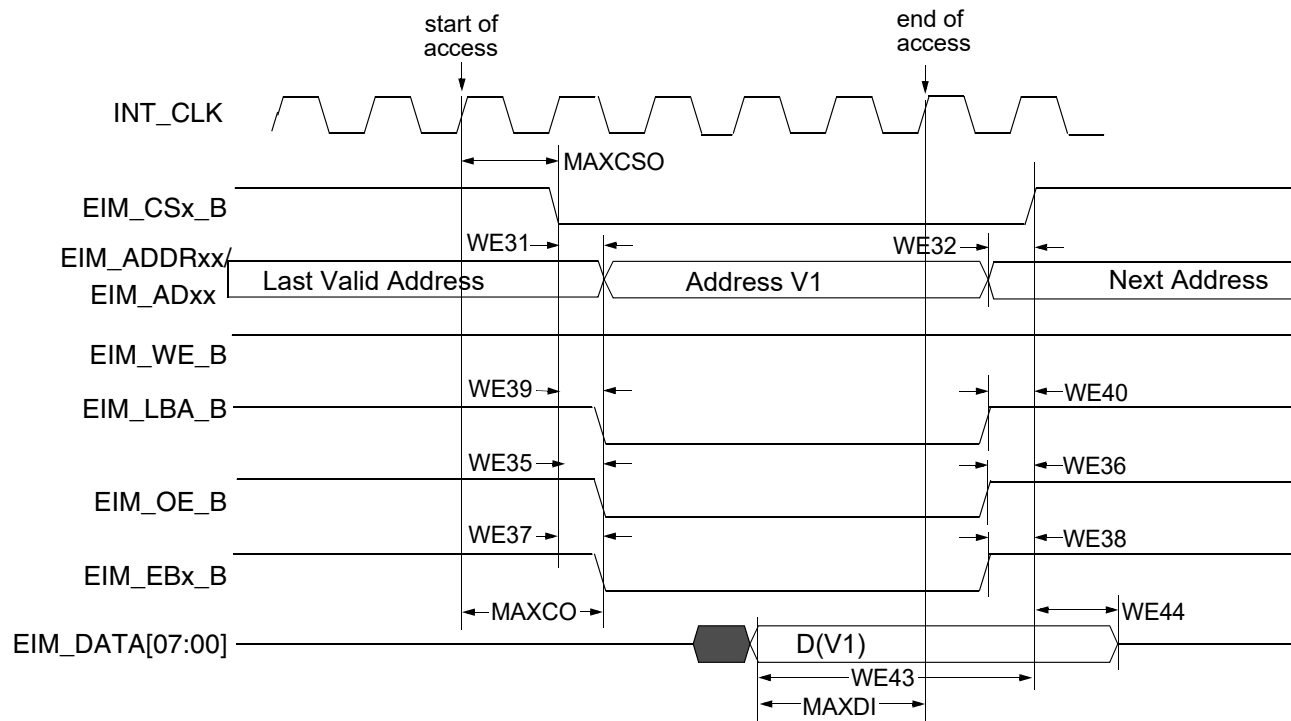
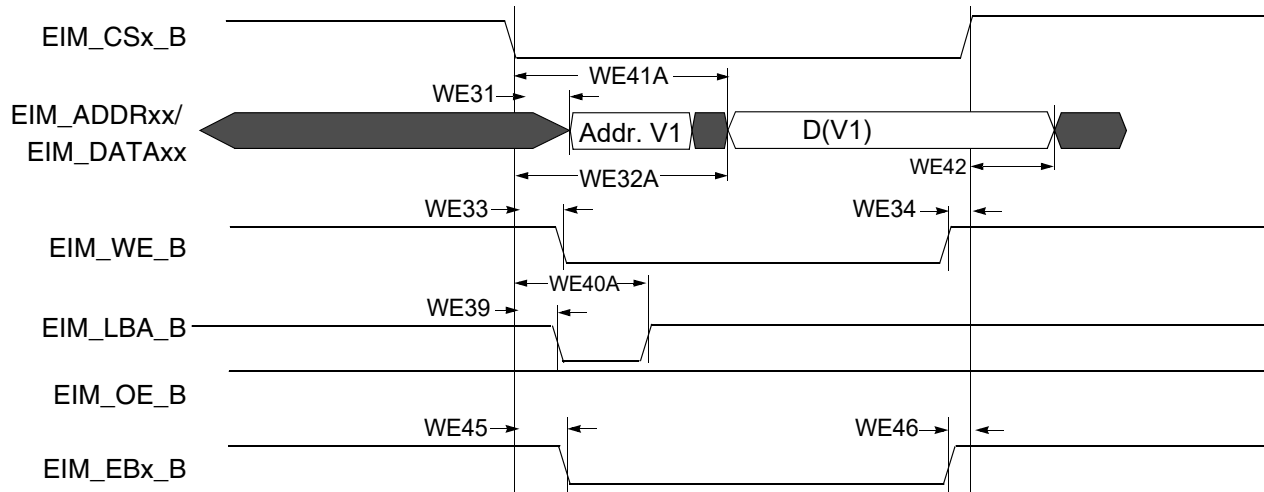
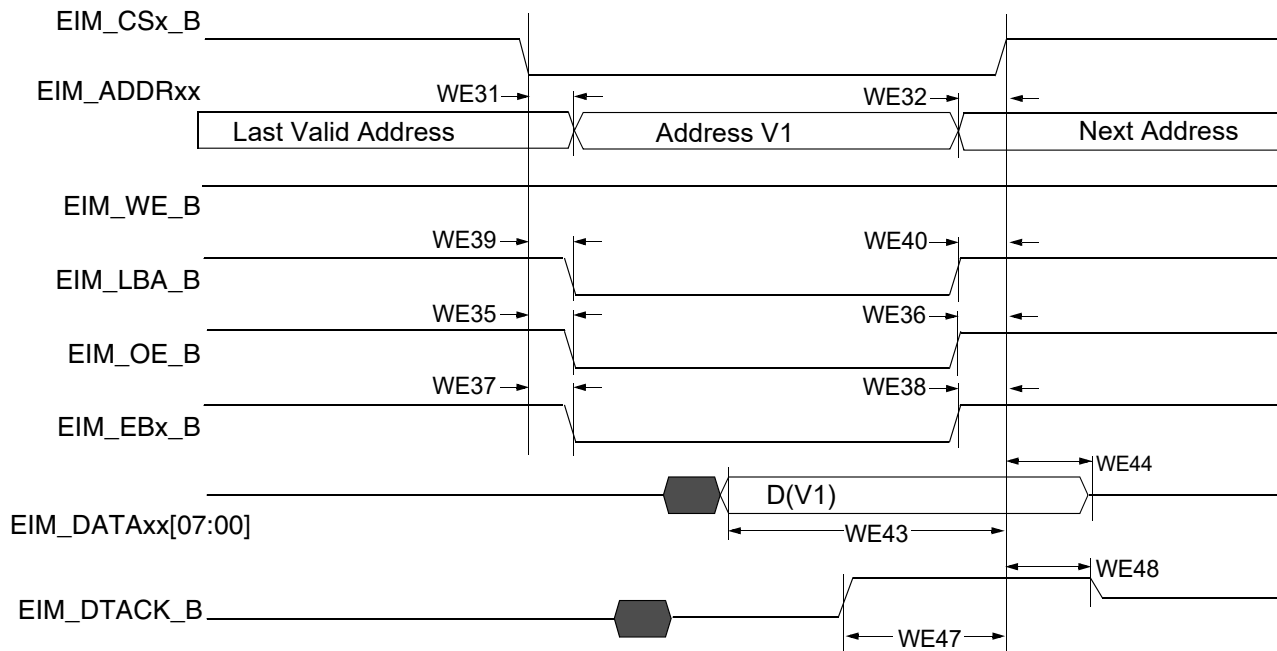

Figure 16. Asynchronous Memory Read Access (RWSC = 5)
Figure 19. Asynchronous A/D Muxed Write Access
Figure 20. DTACK Mode Read Access (DAP=0)
Figure 16 through Figure 20 and Table 36 provide timing parameters relative to the chip select (CS) state for asynchronous and DTACK EIM accesses with corresponding EIM bit fields and the timing parameters mentioned above.
Asynchronous read and write access length in cycles may vary from what is shown in Figure 16 through Figure 19 as RWSC, OEN & CSN is configured differently. See the i.MX 6Dual/6Quad reference manual (IMX6DQRM) for the EIM programming model.